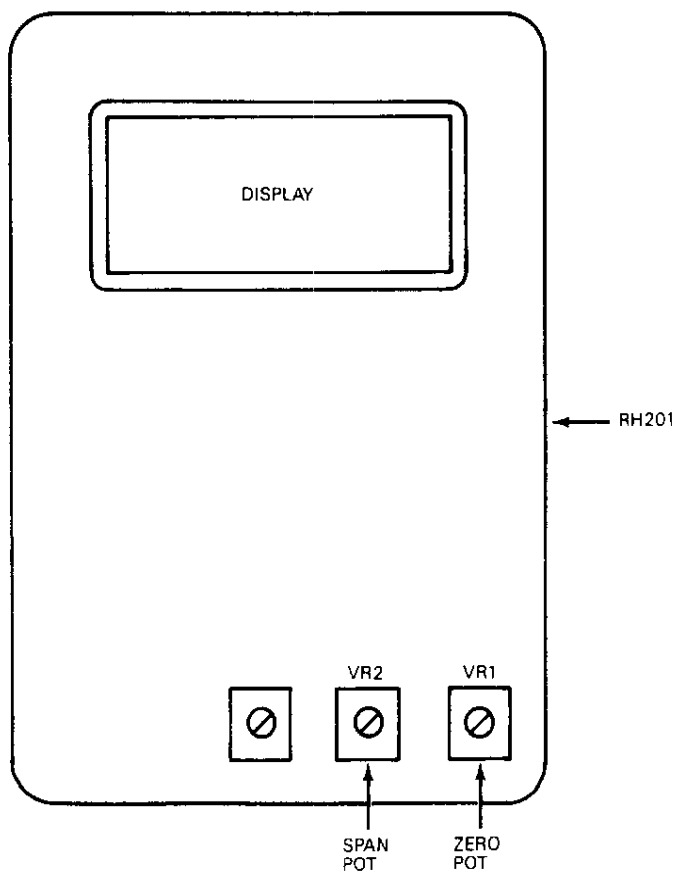

Figure 6-2 Temperature Calibration Pots for the RH-201 F/C
2. Set the type-K calibrator to output 32°F for the RH-201F (0°C for the RH-201C). Connect the calibrator to the type-K female connector on the RH-201. The display should read 32°F (0°C). If not, adjust VR1 until the display reads correctly (see Figure 6-2).